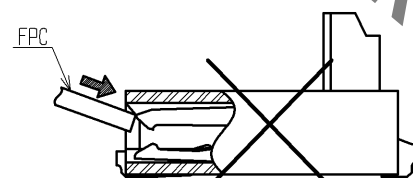

Figure:2
- Do not insert the FPC at a sharp angle as this may cause contact deformation by the FPC touching to contact tips. (Figure:2)